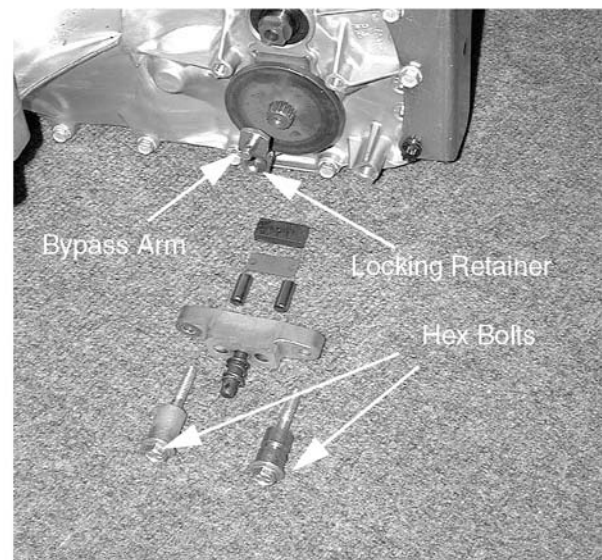

Figure 6-55.
10. Remove both of the hex bolts securing the brake assembly to the IHT case using a 7/16" socket. See Figure 6-55.